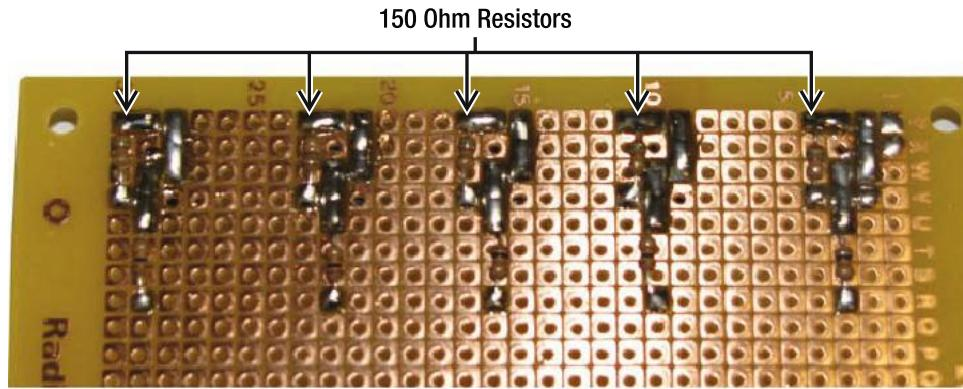

Figure 4-12. Install the (5) 150 ohm resistors from the Emitter's Cathode pin to Ground.
5. Add 150 ohm current-limiting resistors for the IR Emitter LEDs. Supplying 5V through the 150-ohm resistor enables 33mA to go to each IR Emitter, which is just below the maximum current rating. Place each 150-ohm current limiting resistor from the cathode pin of each IR emitter to Ground as shown in Figure 4-12.